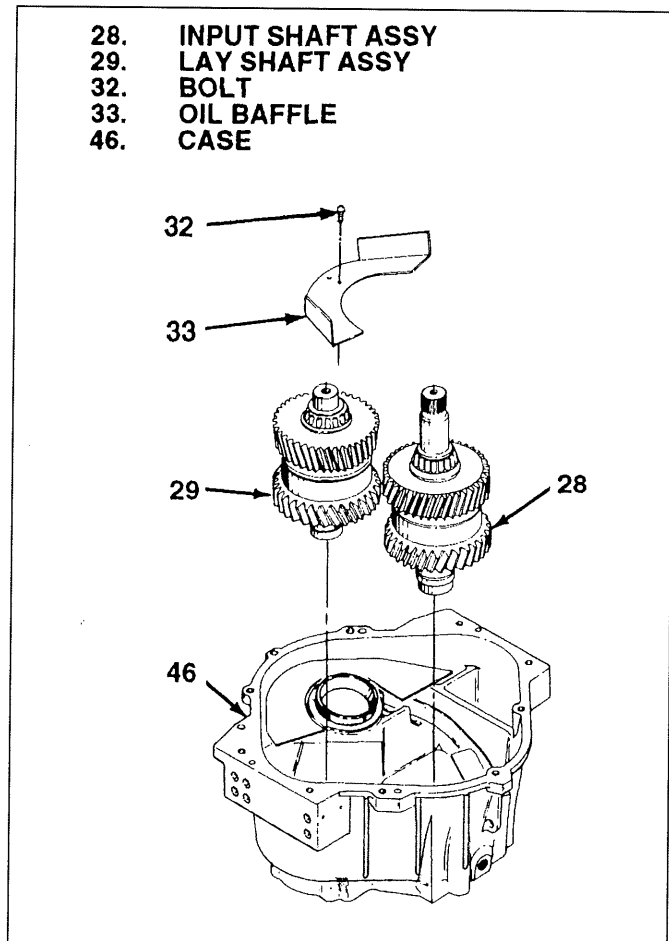
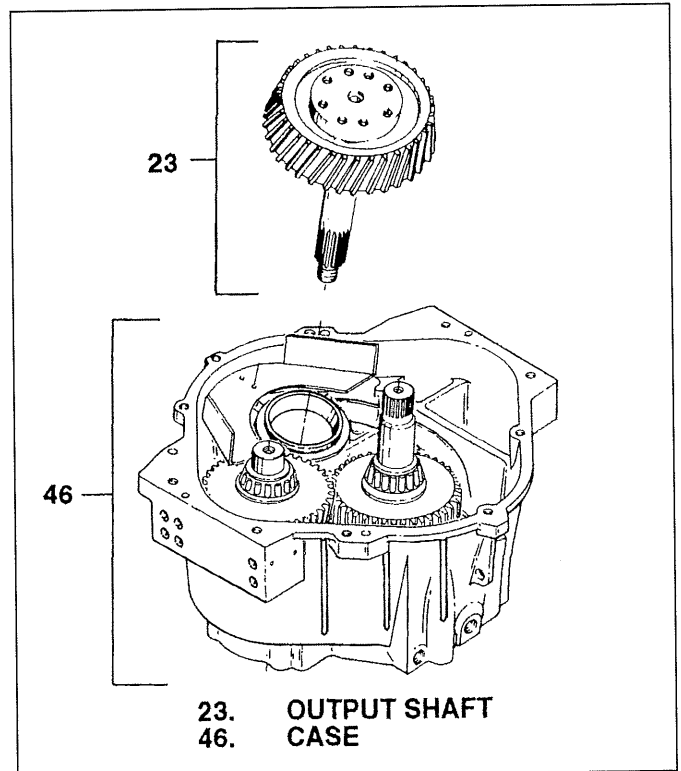

Figure 5-15: Input and Lay Shaft Assemblies
Figure 5-16: Installing Output Shaft/Gear Assembly
ASSEMBLIES Using lay shaft assembly as assembled in paragraph 5-4, input shaft assembly as assembled in paragraph 5-8 (see figure 5-15) and output shaft as assembled in paragraph 5-18 step "i" proceed as follows (see figure 5-16).
1. Install oil pick up tube (34), oil baffle (33) and secure with two bolts (32). Use Loctite® 242 on bolts (32).
2. Position lay shaft/clutch assembly (29) and input shaft/clutch assembly (28) in case (46). (see figure 5-15).
4. Carefully insert output shaft/gear as illustrated in figure 5-16.
5. Install output flange (18) and flange nut (17) to hold assembly in place. It can be tightened later.